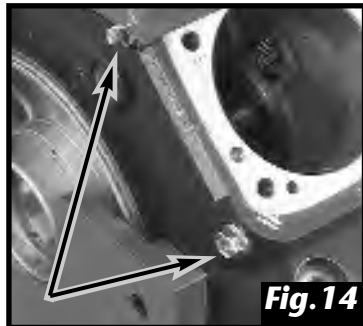

Fig. 14
13. Prior to boring your cases, you will need to determine the Rockwell hardness of your case hardware. If your hardware is under 30 RC, you may bore your cases with your case bolts installed. If your hardware is harder than 30 RC, you will need to clearancé the top center and top rear case bolts, (See Fig. 14). Damage may occur to the tool cutters if the above instructions are not followed. JIMS® is not liable for damaged tool cutters.